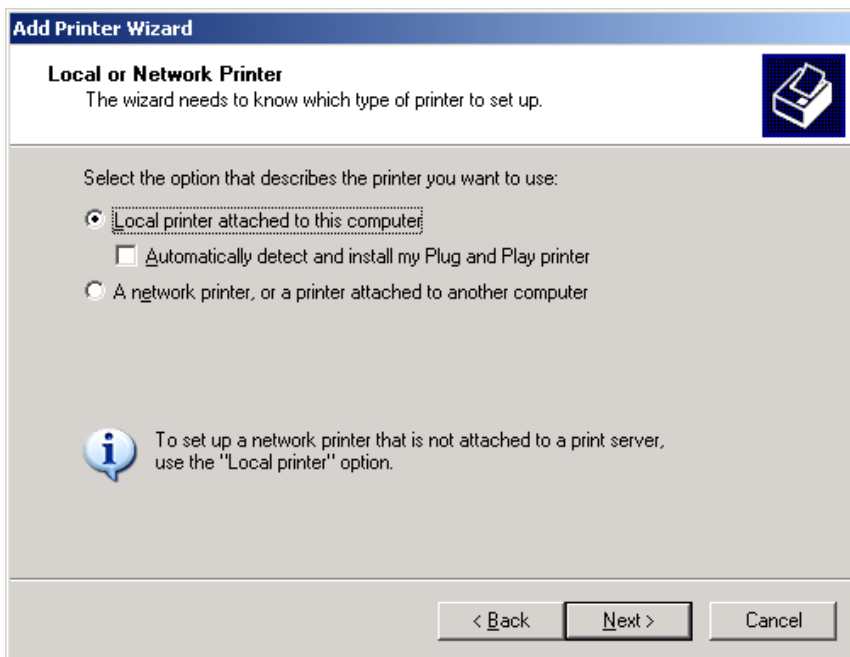

Figure 7: Local printer
2. Select *Local printer* option as shown in the figure 7 below and click Next to proceed